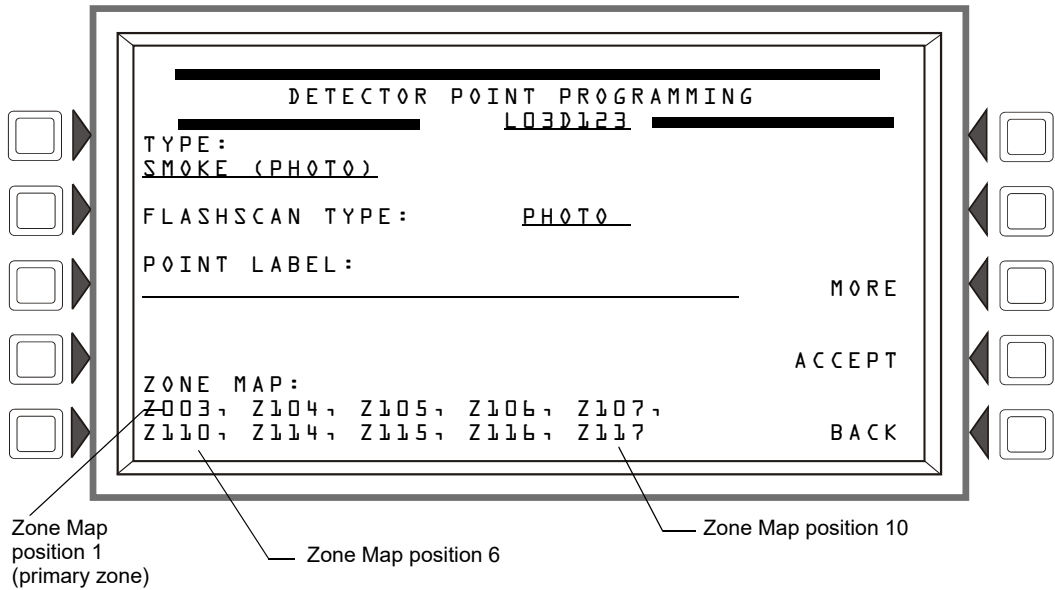

Figure 3.32 Detector Point Programming Screen
**ZONE MAP :** Displays the zones mapped to this point. During initial programming, zone map position one for each detector is set to Z0YY, where YY represents the loop number where the detector resides. In Figure 3.32 above, zone position one has a value of Z003 (YY = 03). The detector in the example resides on loop 3.